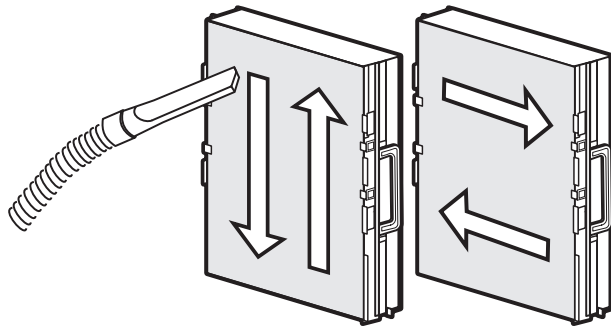

Fig. 8
1. Using a vacuum hose, vacuum in even strokes across the entire COLLECTION CELL surface. Vacuum using even strokes in one direction, then repeat the process using even strokes in the opposite direction, as demonstrated in Figure 8 below.